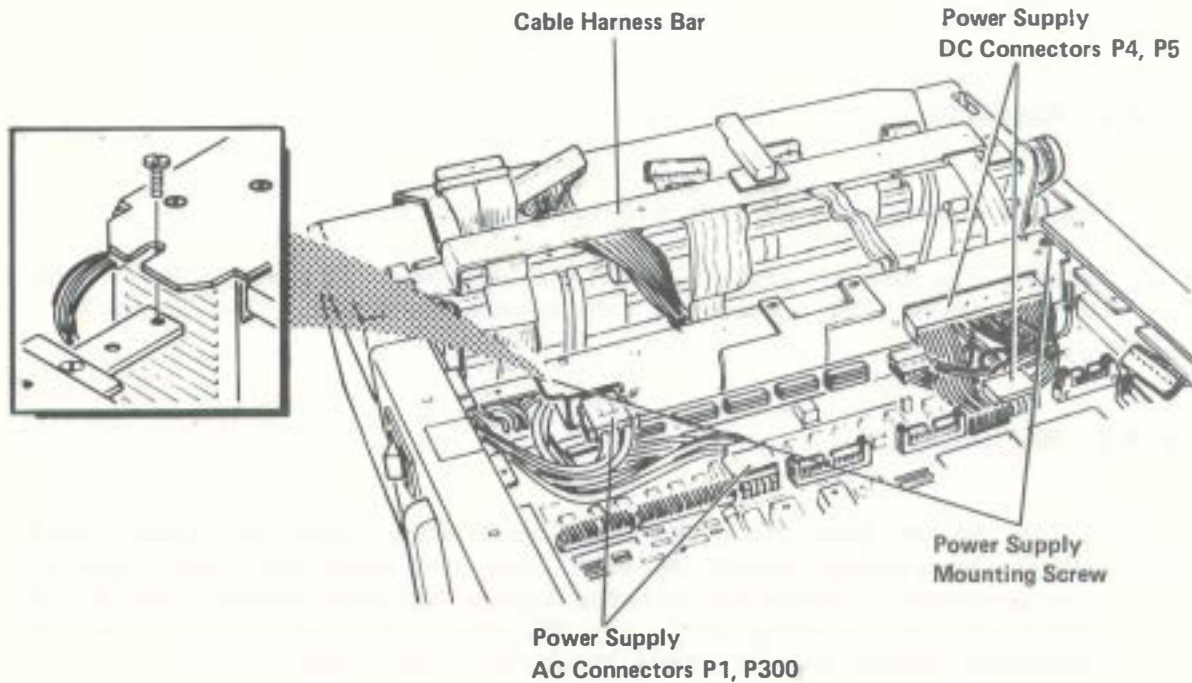

Figure 5-9. Power Supply Connections
4. Disconnect the two AC connectors and the two DC connectors from the power supply. See Figure 5-9.
5. Remove the two screws securing the power supply to the frame. See Figure 5-9.
2. Secure the power supply to the support bracket with the two screws. See Figure 5-9.
3. Reconnect the two AC connectors and the two DC connectors to the power supply. See Figure 5-9.